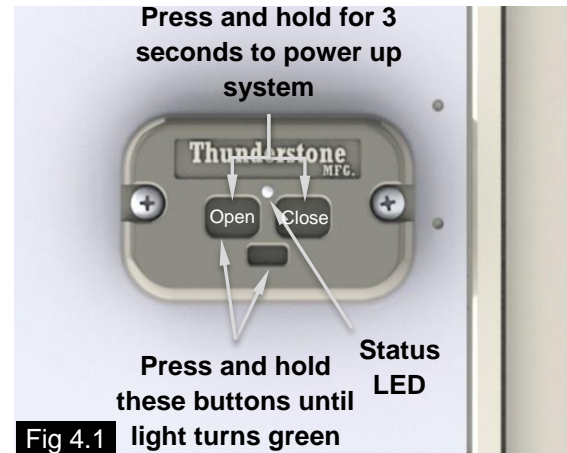

Fig 4.1
3. Turn the trailer keypad on by pressing and holding the two large buttons “Open” and “Close” for approximately 3 seconds or until the status LED and the two large buttons illuminate. See figure 4.1
4. Press and hold the program button (small button) and the “Open” button simultaneously until the status LED turns solid green then release both buttons. The LED will then flash orange rapidly which indicates it is ready to receive remote programming. See figure 4.1